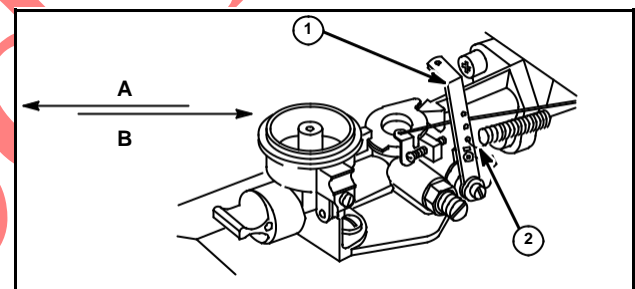

Fig. 16
Speed adjusting lever (1), with spring in #1 hole (2), Fig. 16.